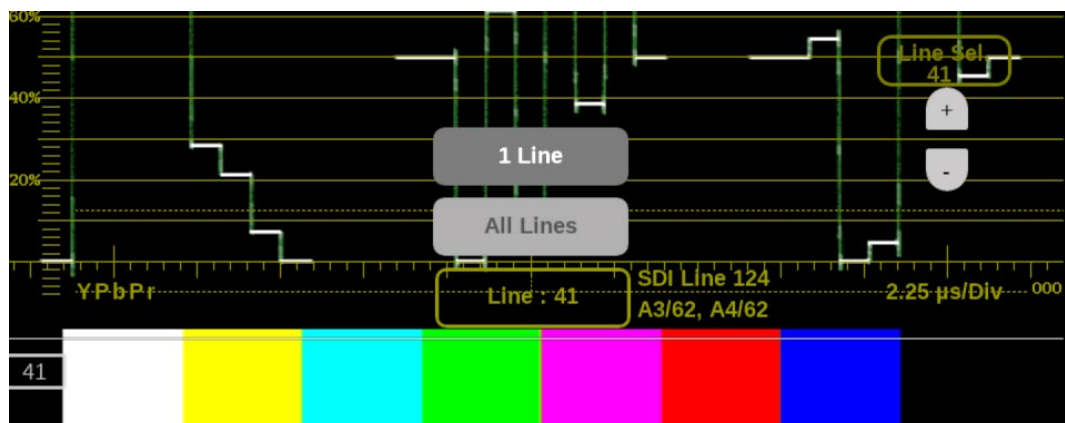

Figure 223: CIE on-screen tools – SDI Line number
- If a signal is UHD, 4K (see Figure 223):